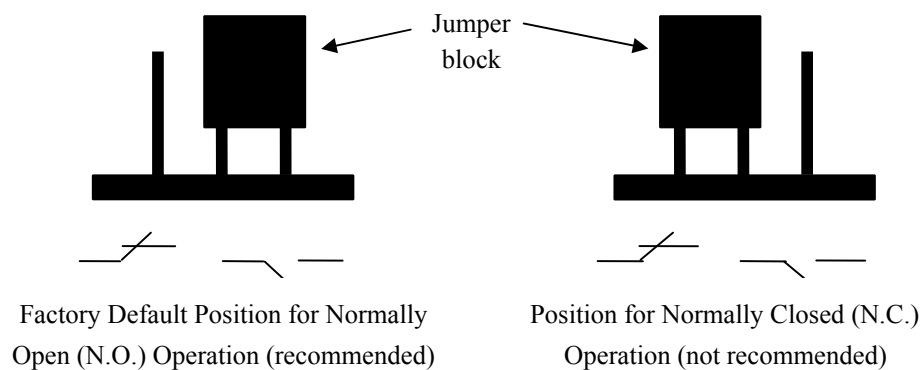

Figure 5 – Jumper J8 Setting
3. The SBU incorporates internal fault detection which can be monitored externally through the relay alarm output terminals marked Tb and Tc. Should the SBU detect an internal fault, the relay will energize and the state of the Tb/Tc output will change. These terminals should be wired to a safety circuit as appropriate. In the factory default configuration, the Tb/Tc output will CLOSE when the SBU detects a high internal temperature, and will be OPEN otherwise. An SBU fault will cause an external trip fault in the inverter. Note: Jumper J8 will change the logic sense of the Tb/Tc output from NO to NC (Figure 5) should your system so require. However, it is recommended to use the factory default setting as described. Refer to the Inverter Instruction Manual for more specific details about how to wire and set up an external trip input.